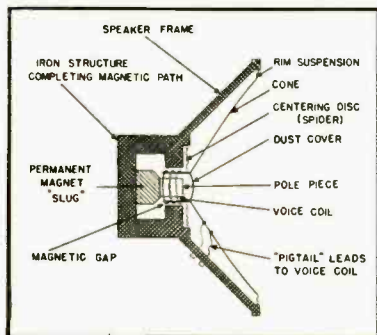

Fig. 9-1. Basic construction of the moving coil loudspeaker.
Figure 9-1 shows the working parts of a dynamic speaker.
The fixed magnetic field of most modern speakers is produced by a permanent magnet (PM) in the form of a ring, bar, or other shape. The magnet pictured in Fig. 9-1 is of the bar or "slug" type.